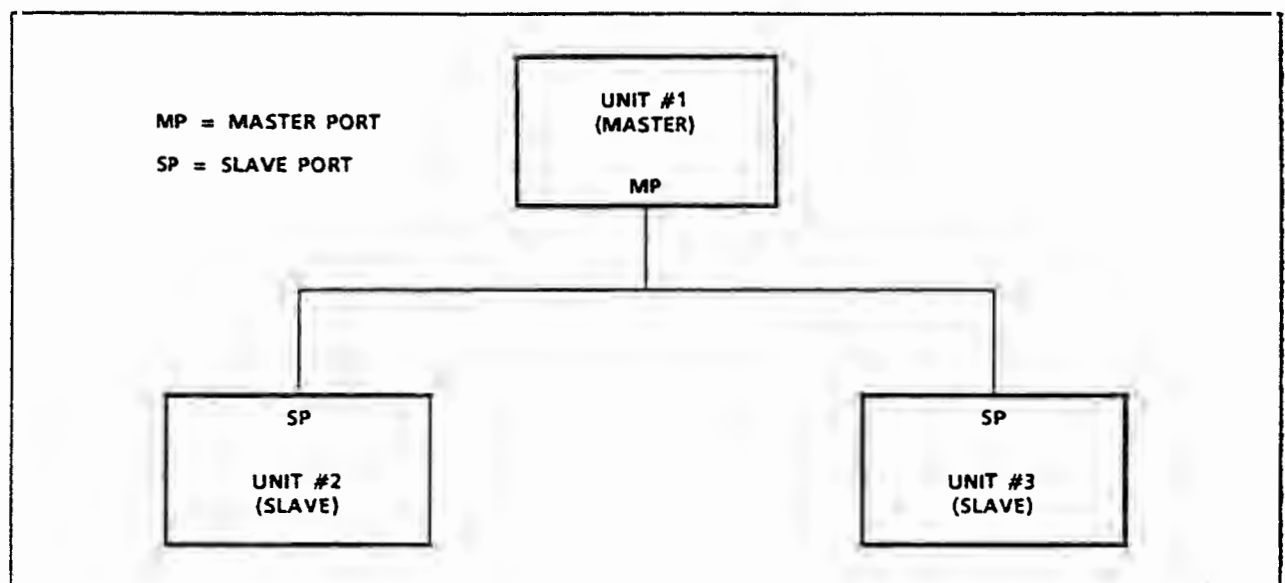

Figure 4-1. Master/Slave Communications Programming Reference Diagram
The Master serial port (see Figure 4-1) enables a given GENISYS or MICROLOK PLUS unit to communicate with another such Slave unit or units. The MASTER subsection defines the I/O operations for the Master unit of such a system.
(3) Master/Slave Programming Example (See Figure 4-1)
The program code for unit #1 in Figure 4-1 (MASTER I/O subsection) is as follows: